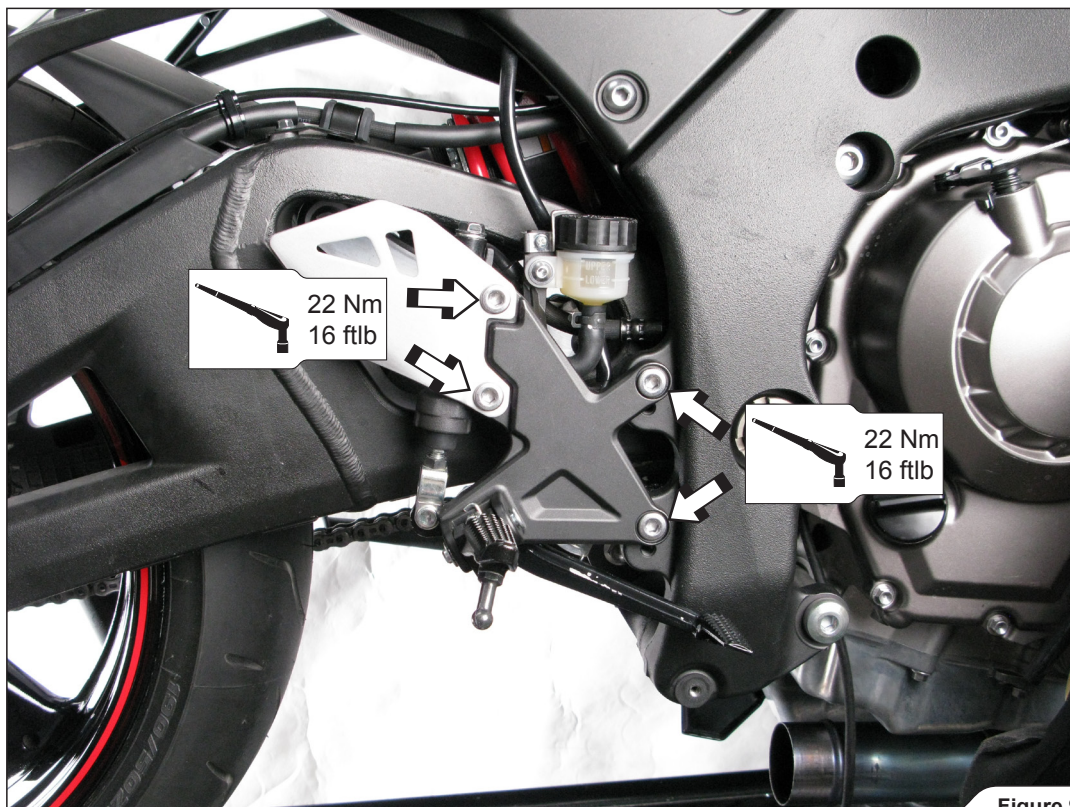

Figure 9
1. **For optional link pipe only:** assemble the foot peg and foot guard back onto the frame (**Figure 9**).